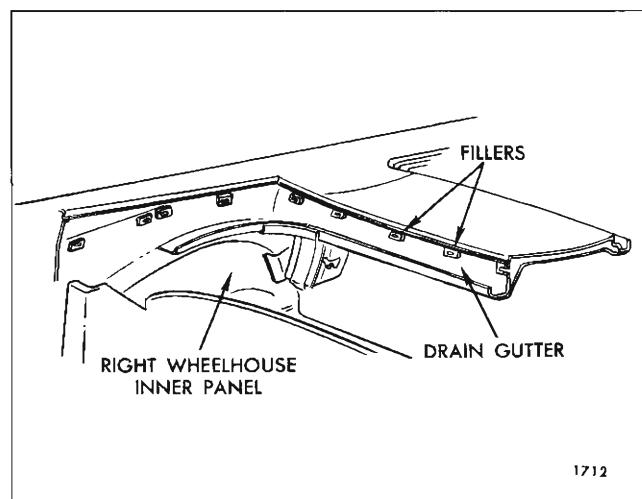

Fig. 2-I-44—Checking Trim Stick Fillers
8. Tack nylon webbing to rear trim stick. Lower rear edge of webbing should be even with corner of rear trim stick (See Fig. 2I41).
9. Inspect rubber trim stick fillers cemented to body below pinchweld. Re-cement, if necessary, (Fig. 2I44).